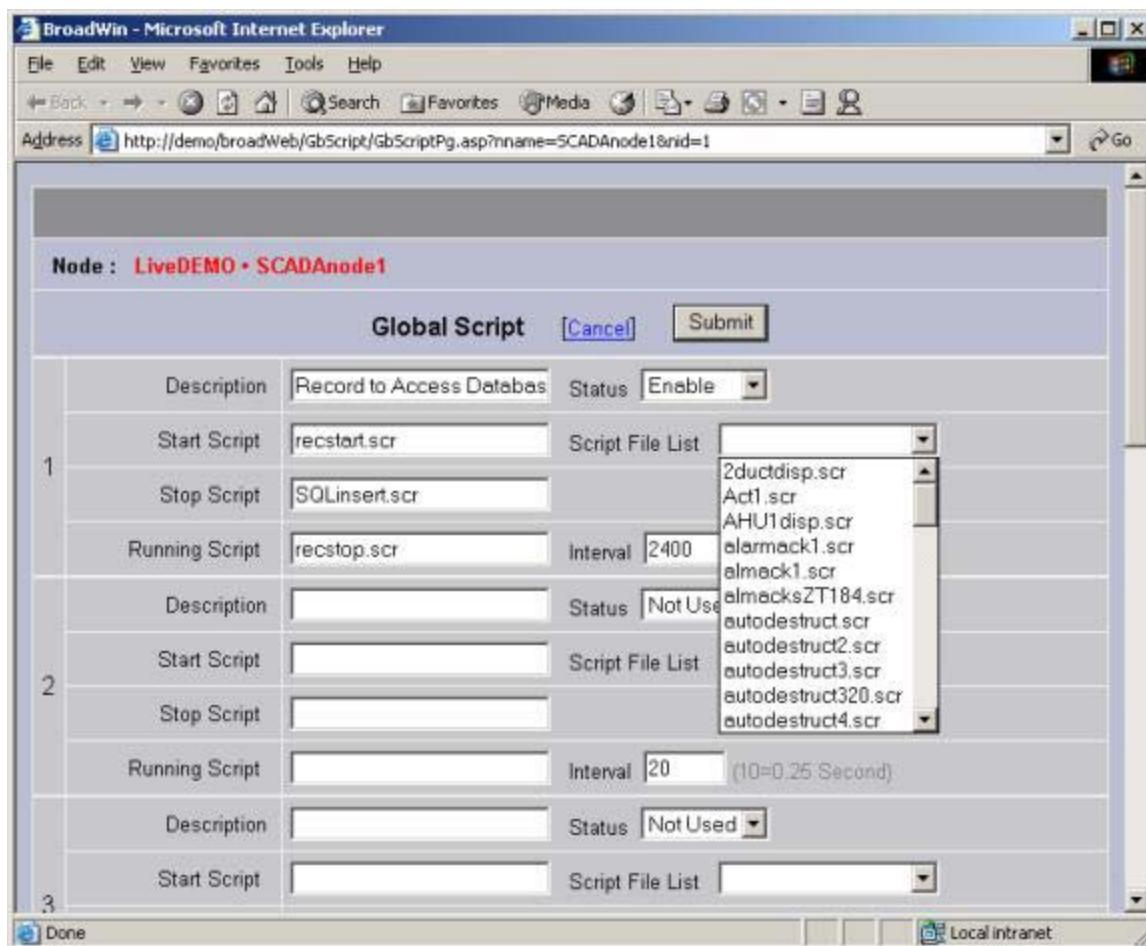

Figure 9.1.1 - Global Script configuration
5. The Global Script configuration page appears (Figure 9.1.1 above).